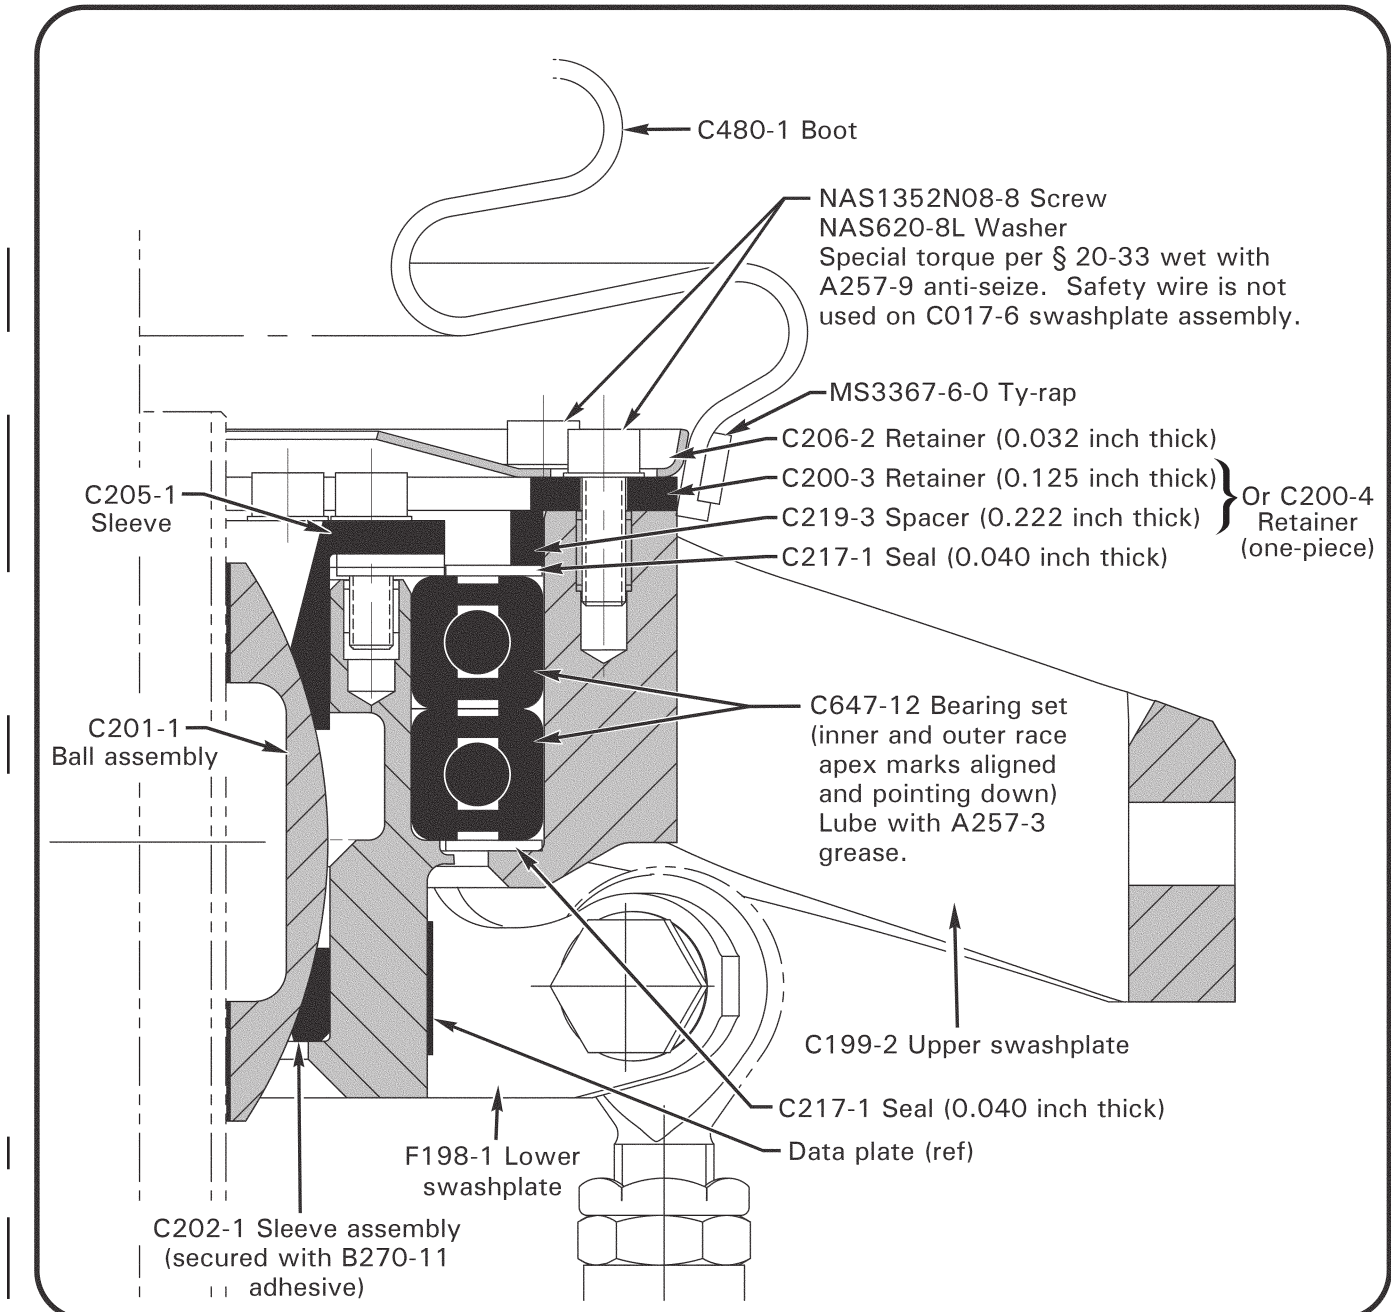

FIGURE 12-7 C017-6 REV AD OR LATER SWASHPLATE ASSEMBLY
5. Refer to Figure 12-7. Remove (10) NAS1352 screws (with washers) securing C206-2 & C200-3 retainers to upper swashplate. Raise both retainers and C219-3 spacer and either temporarily secure to chord arm (if on helicopter) or set aside (if on workbench).
8. Position C217-1 seal atop grease followed by C219-3 spacer, C200-3 retainer, and NAS1352N08-8 screws with NAS620-8L washers. Finger-tighten all screws, then snug any (4) screws that are 90° apart, depressing seal and forcing grease into underlying bearing set. Rotate upper swashplate several revolutions. Wipe off excess grease.